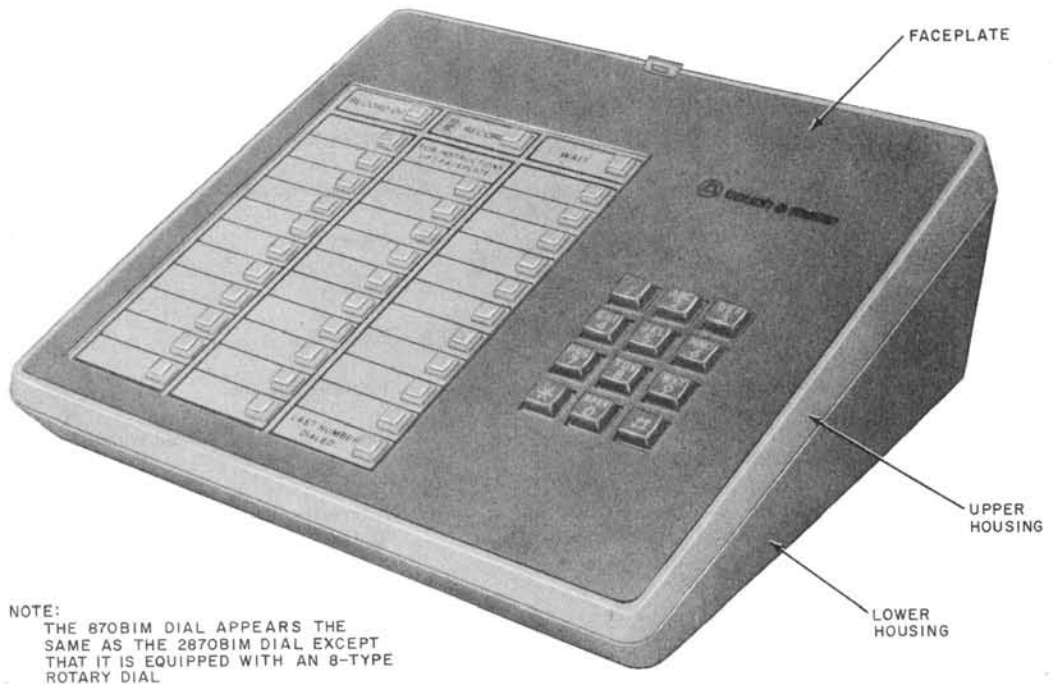

Fig. 1—2870B1M Dial
1.01 This section contains information on the 870B1M (rotary service) and the 2870B1M (TOUCH-TONE® service) dials Fig. 1.